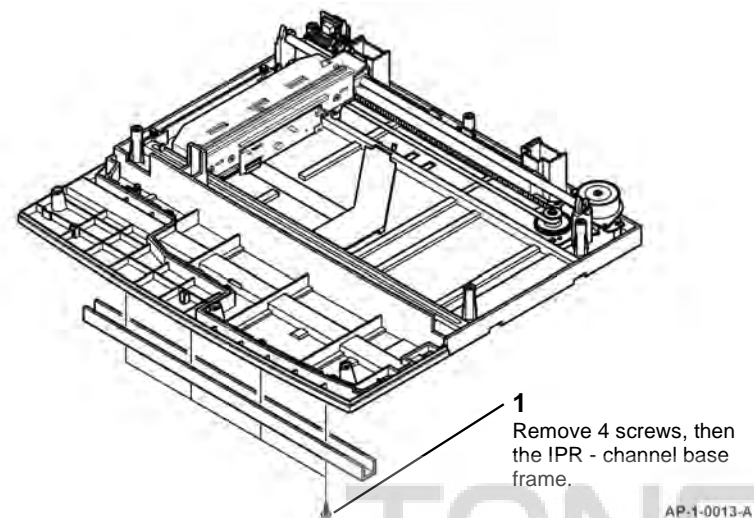

Figure 11 IPR - channel base frame removal
13. Remove the IPR - channel base frame, Figure 11.